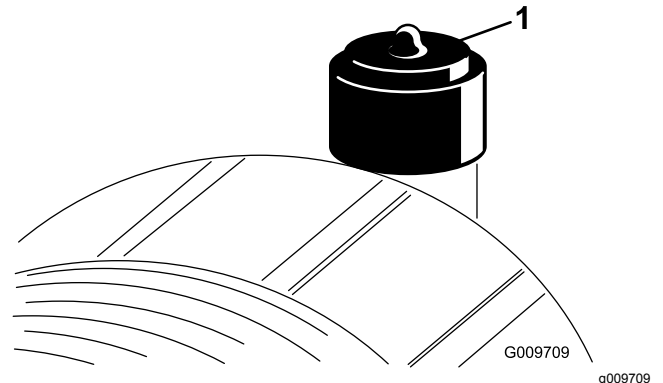

Figure 48
Service the air-cleaner filter only when the service indicator (Figure 48) requires it. Changing the air filter before it is necessary increases the chance of dirt entering the engine when you remove the filter.
2. Reset the indicator (Figure 48) if it shows red.